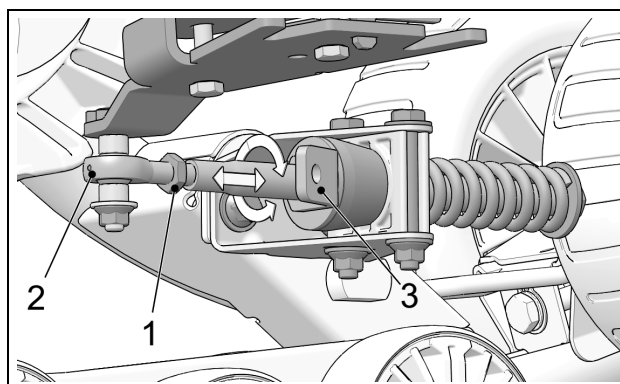

Figure 6
- Loosen jam nut (1). Adjust length of rod end (2) by rotating the steering limiter support plate (3) the stabilizing arm. Use a 30 mm wrench to rotate support plate to obtain a perfectly centered bubble in the level. Figure 6.